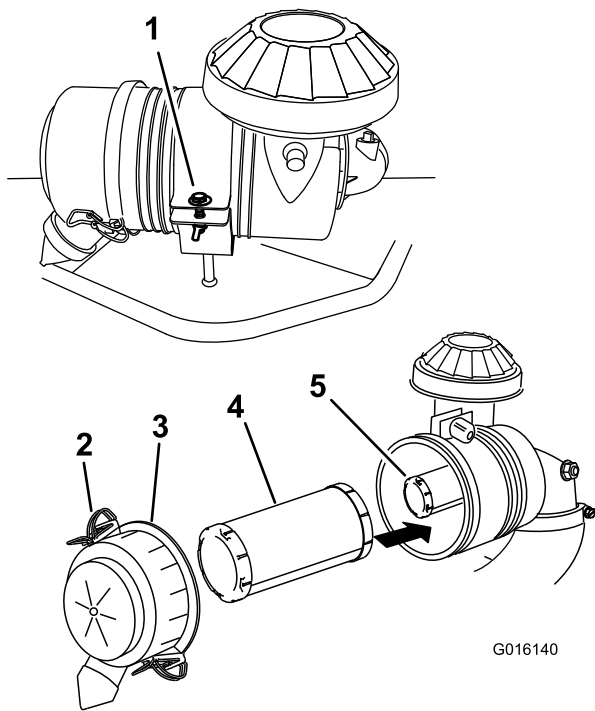

Figure 44
3. Remove the bolt holding the air cleaner bracket together. This will allow access by rotating the air cleaner body (Figure 44).
4. Release the retaining clamps on the air cleaner and pull the air cleaner cover off of the air cleaner body (Figure 44).
6. Gently slide the primary filter out of the air cleaner body (Figure 44). Avoid knocking the filter into the side of the body.
1. Do not clean the paper filter, replace it (Figure 44).
2. If the secondary filter is being replaced, carefully slide it into the filter body (Figure 44).
3. Carefully slide the primary filter over the secondary filter (Figure 44). Ensure that it is fully seated by pushing on the outer rim of the filter while installing it.
4. Install the air cleaner cover with the breather cap down and rotate so the retaining clamps lock the cover in place (Figure 44).
5. Install the bolt to hold the air cleaner in the bracket (Figure 44).